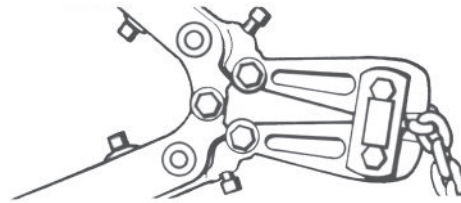

Figure 12. Cutting Chain with a Bolt Cutter
3. Use a bolt cutter (Figure 12) similar to the H.K. Porter No. 0590MTC with special cutter jaws for cutting hardened chain (1 inch [25.4 mm]) long cutting edge.